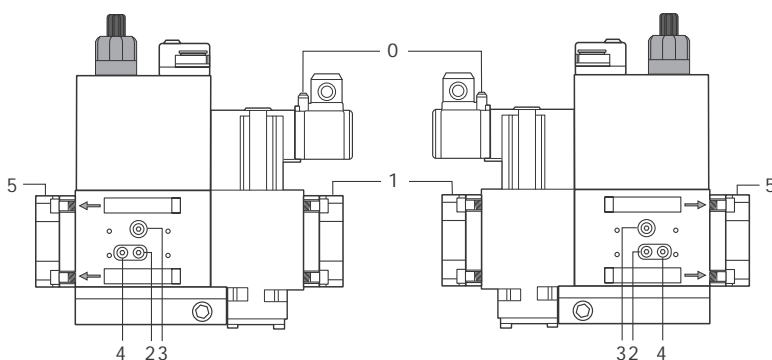

Fig. 46
- 2 Remove screws 1 ÷ 4 using the Allen key n. 3 and remove filter cover 5 in Fig. 46.